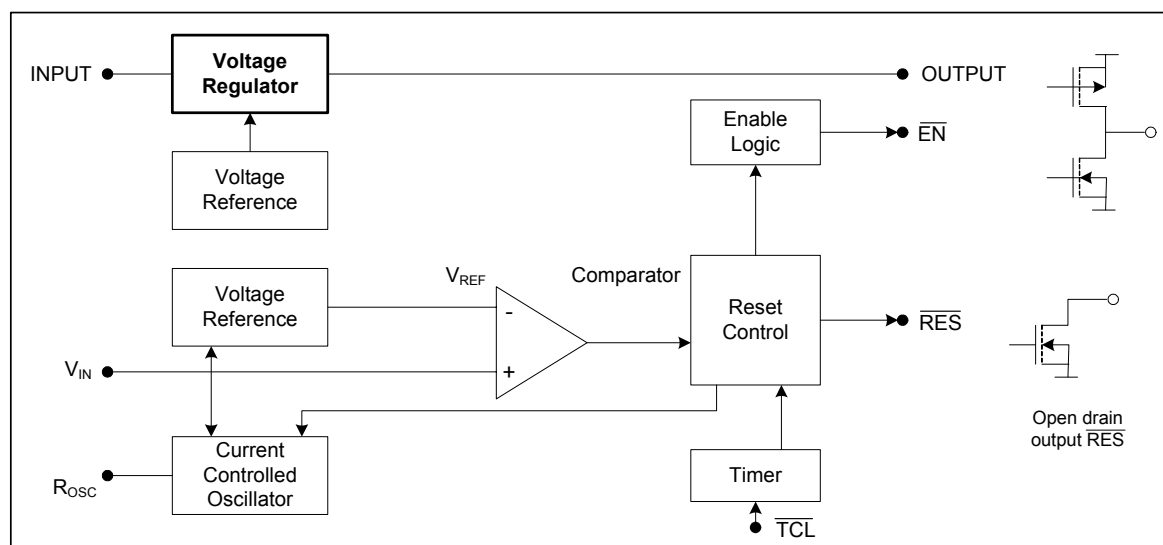

Fig. 3
- Note 5:** the comparator and the voltage regulator have separate voltage references (see "Block Diagram" Fig. 3).